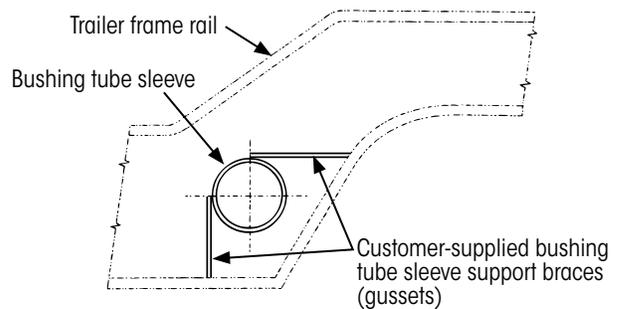

Figure 27: *Bushing tube sleeve support brace installation*
2. **Install** additional support braces (gussets) to the bushing tube sleeves, Figure 27. These braces are customer supplied and should resist all fore, aft and vertical loading of the bushing tube sleeve.